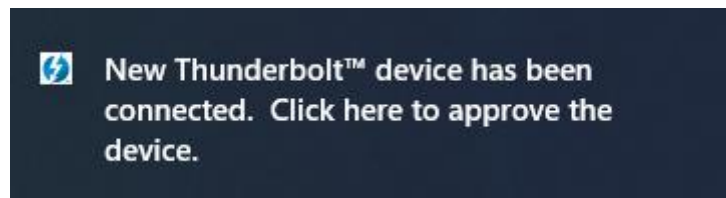

Figure 4-4 New Thunderbolt devices have been attached" message
4. When the host pc connects to the Apollo Developer Kit with Thunderbolt 3 cable for the first time. Windows should detect a Thunderbolt Device and you will see a “New Thunderbolt device has been connected” message appear in the bottom right corner of your screen as shown in **Figure 4-4**. Click the message to approve the device.